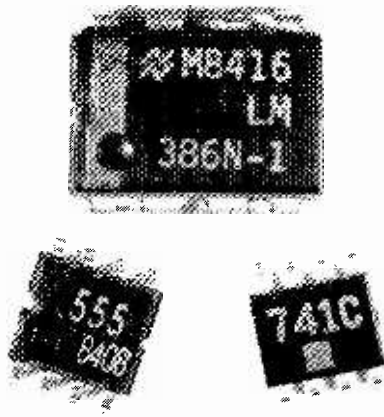
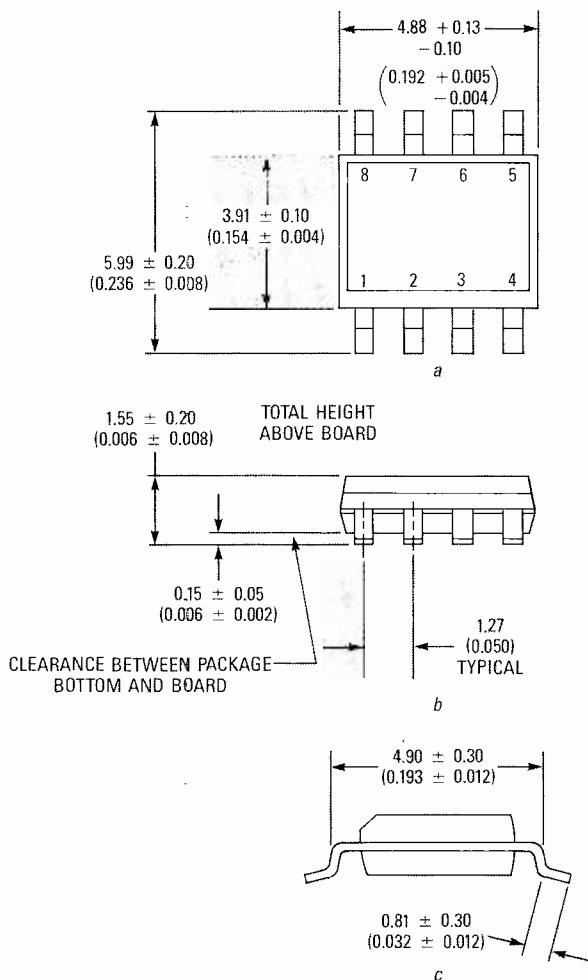

FIG. 10—TWO SO INTEGRATED CIRCUITS and a conventional 8-pin mini-DIP.
FIG. 11—TOP VIEW (a), side view (b), and front view (c) of a Texas Instruments 8-pin SO integrated circuit.
The most popular surface-mountable IC package, the Small-Outline (SO) configuration developed by Philips, resembles a miniature DIP. An SO device occupies around a fourth the board space of an equivalent DIP. Of even more importance is the very low profile provided by the SO package. Figure 10 shows two 8-pin SO devices together with a conventional 8-pin mini-DIP for a size comparison, and Fig. 11 is an outline view of an 8-pin SO device. Note that the pins of SO devices are placed on 50-mil centers rather than the 100-mil spacing found on DIP's.